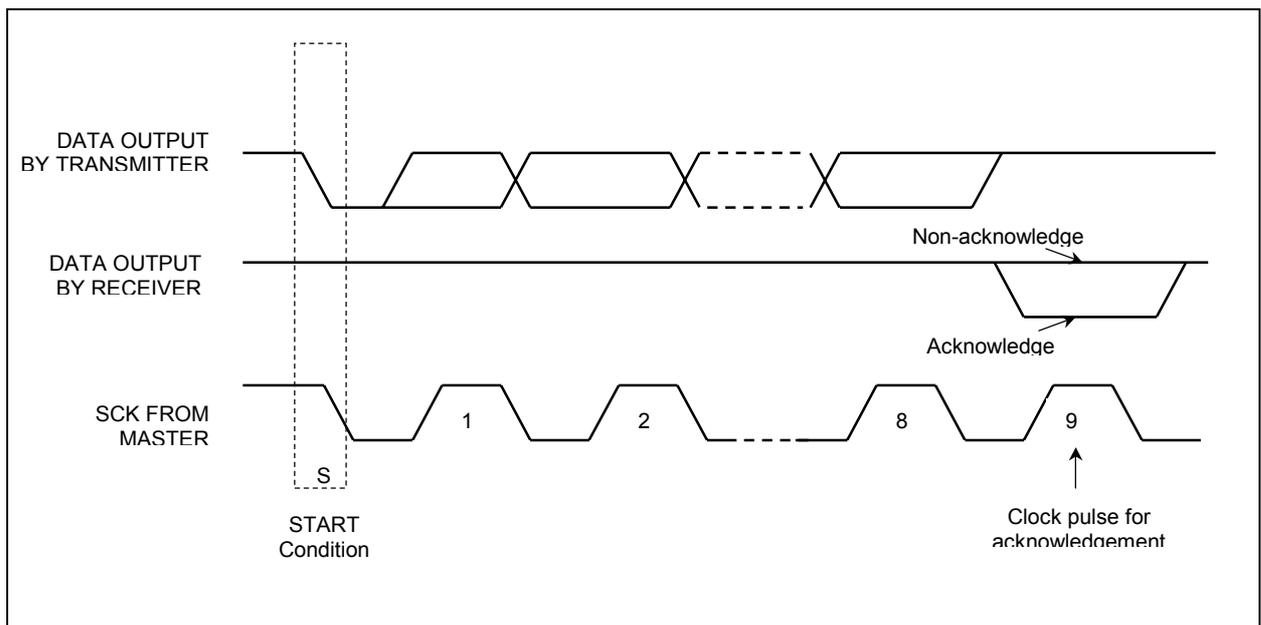

Figure 13 - Definition of the acknowledgement condition
- 4) An acknowledgement signal will be generated after receiving one byte of data, including the slave address and the R/W bit. Please refer to the Figure 13 for the graphical representation of the acknowledge signal. The acknowledge bit is defined as that the SDA line is pulled down during the high period of the acknowledgement related clock pulse.